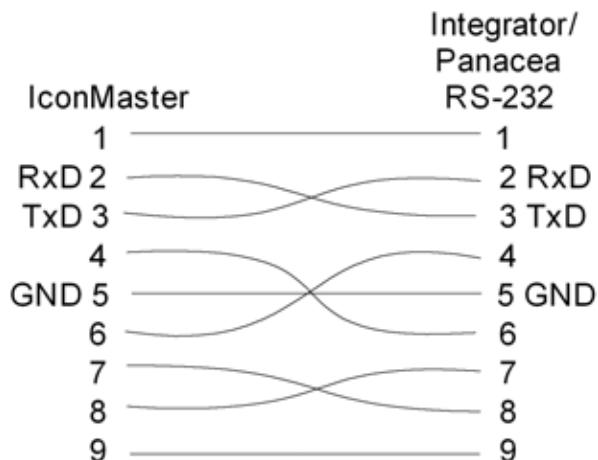

Figure 2-35 RS-232 IconMaster Port E to Integrator or Panacea Pin Connections
- 2 If necessary, extract the jumper packs, and then rotate them to match the RS-232 or RS-422 setting as required. **Figure 2-35** shows RS-232 and RS-422 orientation.